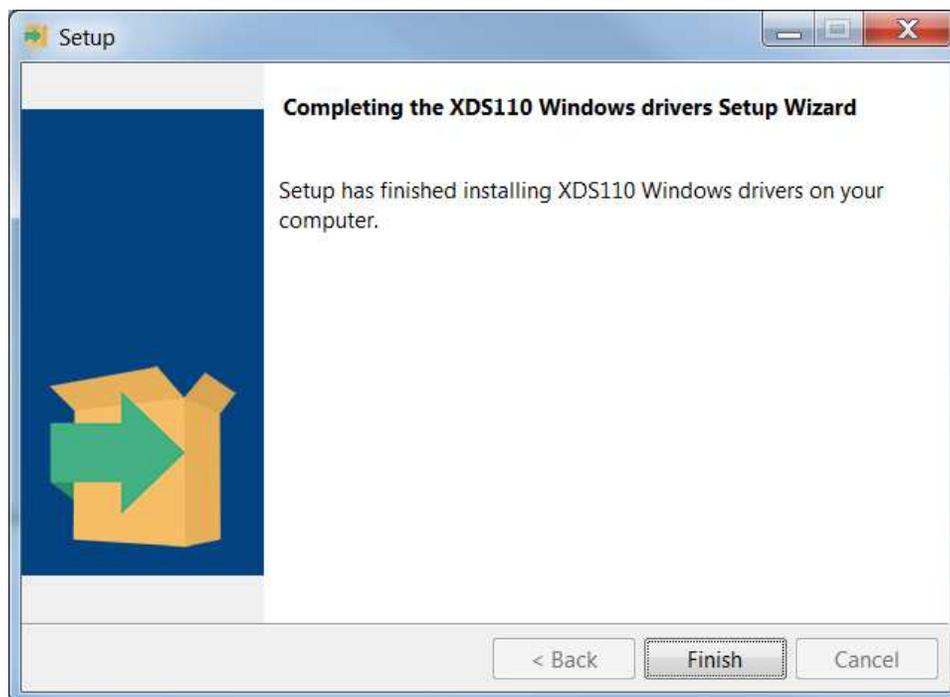

Figure 1-10. Complete Installation
- Click Finish when installation is done, as shown in Figure 1-10.